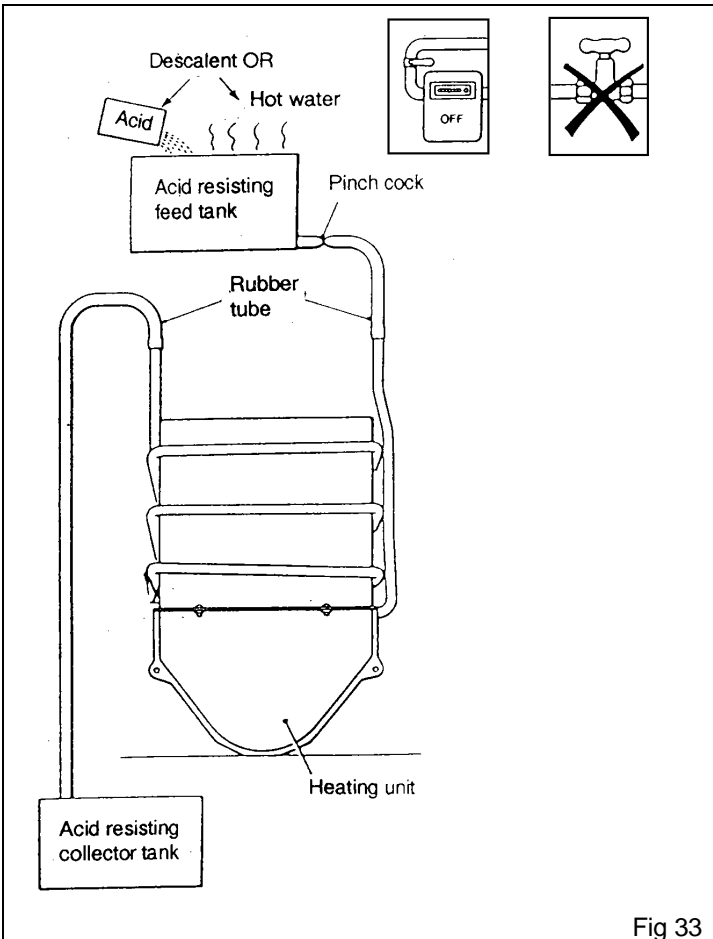

Fig 33
- e. Using rubber tube and acid resisting tanks, assemble as shown in fig.33.